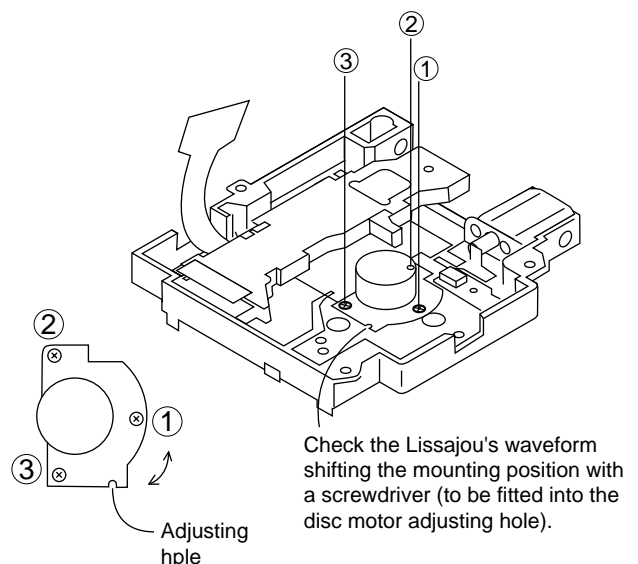

Figure 27-4
2. After adjustment, tighten screws ①, ②, and ③ in numerical order. (See Fig. 27-4)